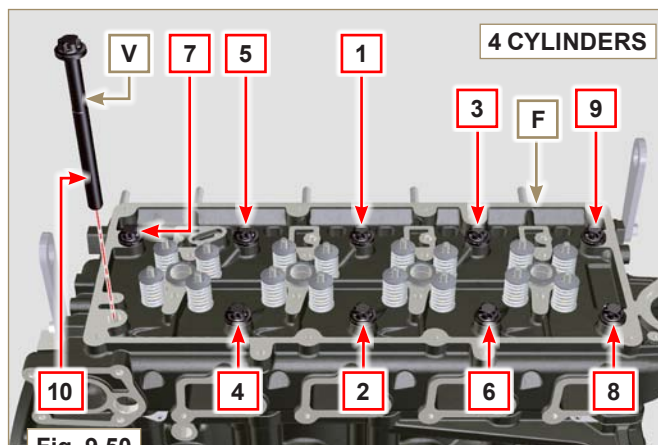

Fig. 9.50
- 9 - Secure the head **F** by tightening the screws **V** strictly following the sequence indicated in the Fig. 9.49 or Fig. 9.50 and the tightening torque indicated in the Tab. 9.3.
- For engine **KDI 2504 TM**: 10 screws **Torx M12x1,25** (Fig. 9.50).